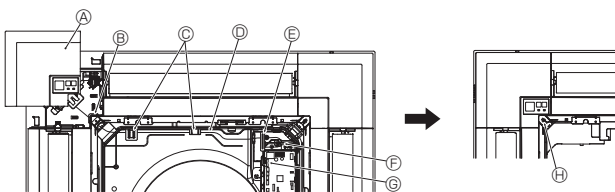

Fig. 6-9
6.4.5. Installing signal receiver (Fig. 6-9)